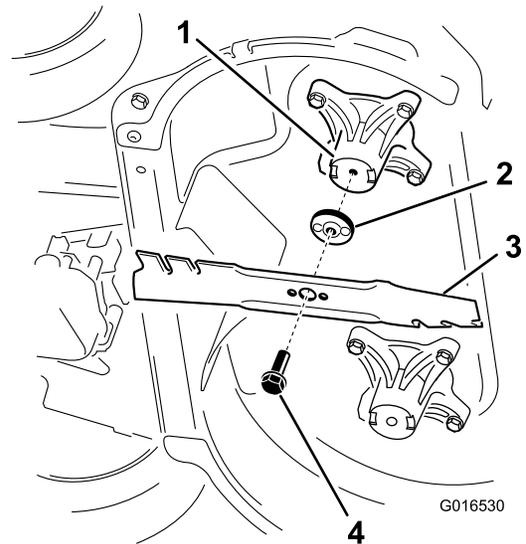

Figure 32
2. Remove each blade as shown in Figure 32.
1. Install the first blade so that it is horizontal, along with all mounting hardware as shown in Figure 32.